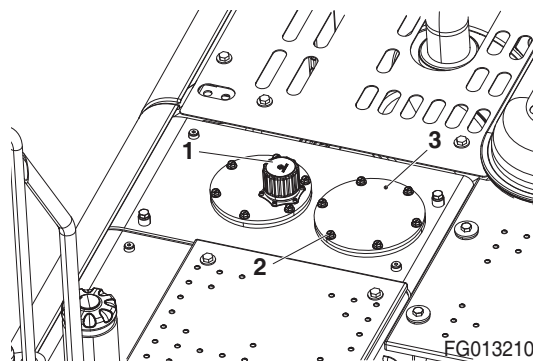

Figure 72
2. Lift the breather cap (1, Figure 72) slightly to release the internal pressure.
3. Remove bolts (2, Figure 72) and service cover (3). Remove spring (4), valve (5) O-ring (6), and bypass strainer (7), and then filter (8).
6. Tighten the breather cap (1, Figure 72).